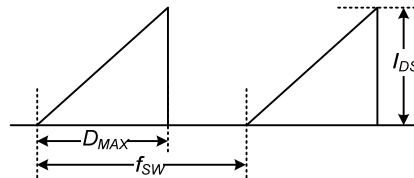

Figure 4. Repetitive Peak Switching Current
- Repetitive peak switching current when the inductive load is assumed: Limited by maximum duty ($D_{MAX}=0.73$) and junction temperature (see Figure 4).